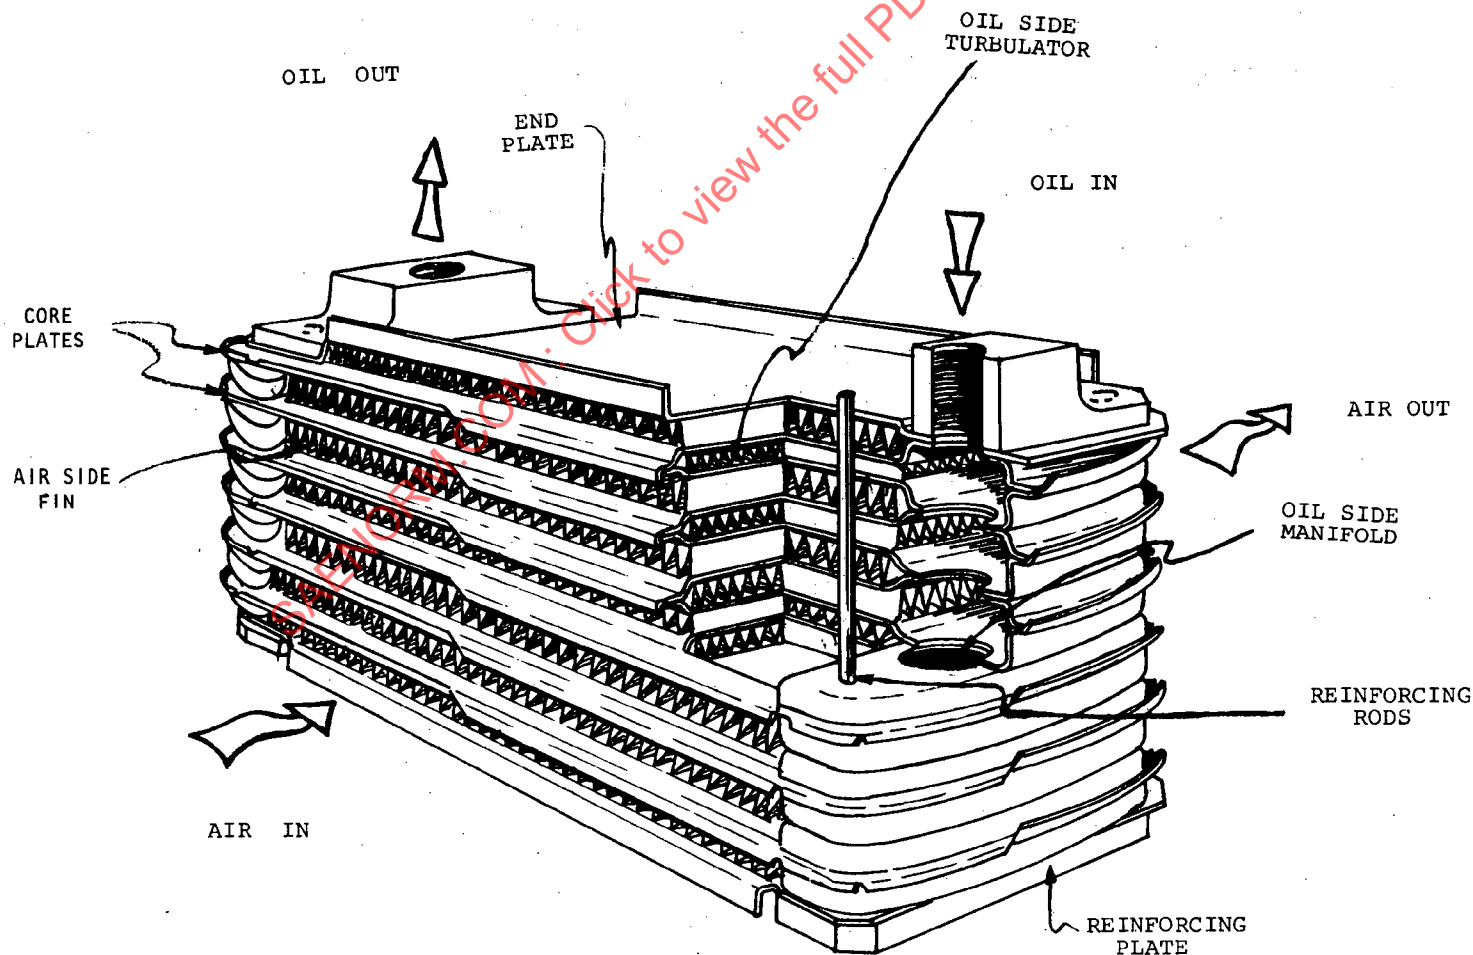

FIG. 1—PLATE FIN SEPARATOR OIL TO AIR COOLER
4.9 **Fin**—Extended Heat Transfer Surface—See Figs. 1, 4, and 6 in Nomenclature.
4.16 **Manifold**—See Tank or Bonnet. Refer to Figs. 1, 6, 7, and 8 in Nomenclature.
NOTE: For typical configurations see Figs. 1, 5, 6, and 8 in Nomenclature.